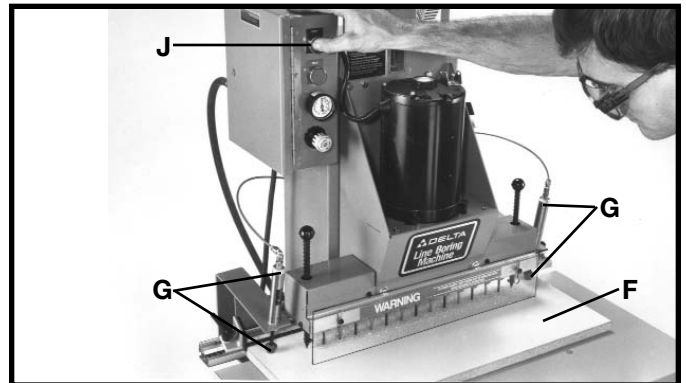

Fig. 55
4. Operate the unit through one cycle. Press in and hold the start button (J) Fig. 55. The two air clamps (G) Fig. 55, will activate and the clamps will start downward, clamping the board firmly against the table. In addition, the motor will start and the boring head will lower, as shown in Fig. 55.